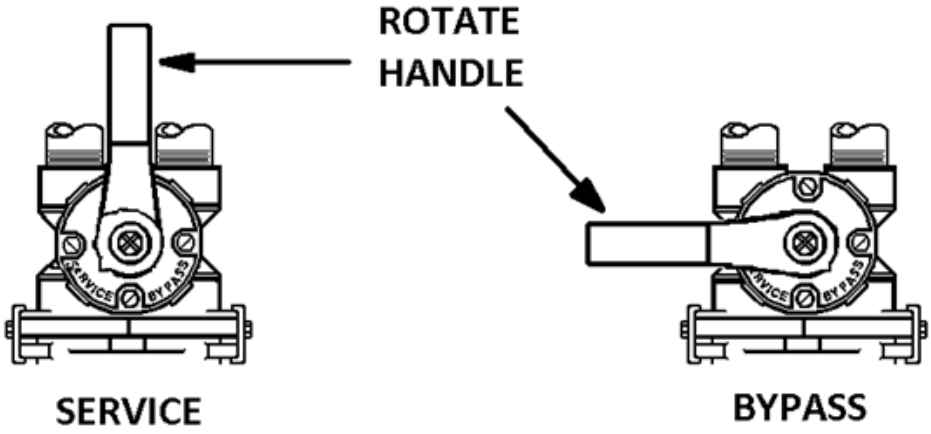

FIGURE 3: Bypass Valve
Be sure the control valve is in the "Service" position. The service indicator should point to the time of day arrow (See figure 4a below). Put the bypass valve is in the "Bypass" position (See figure 3 on page 5).
STEP 11: Gradually move bypass valve fully to the "SERVICE" position (see figure 3, page 5). It is normal and desired for air to be trapped in the top part of the tank.